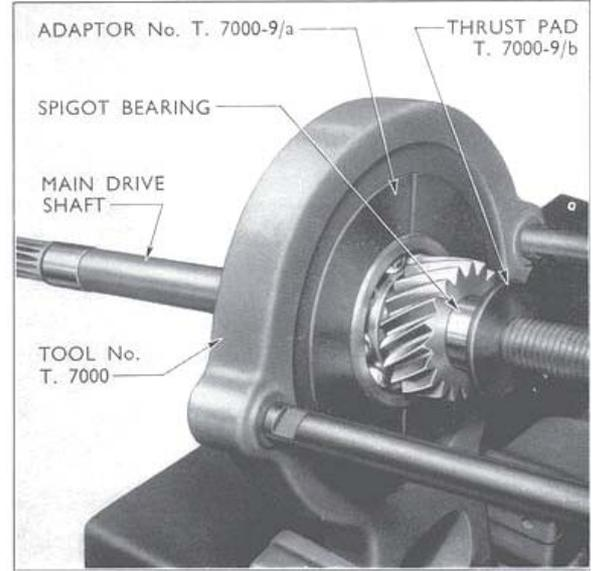

Fig. 8
- (iv) *If the spigot bearing has been removed, assemble a new spigot bearing to the main drive shaft as illustrated in Fig. 8.*